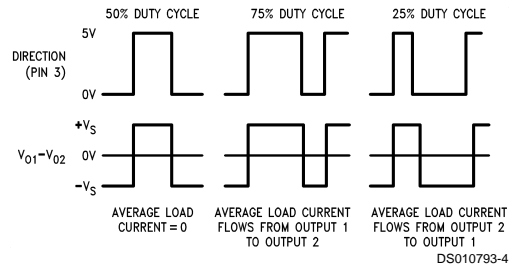

FIGURE 2. Locked Anti-Phase PWM Control
**Simple, locked anti-phase PWM** consists of a single, variable duty-cycle signal in which is encoded both direction and amplitude information (see Figure 2). A 50% duty-cycle PWM signal represents zero drive, since the net value of voltage (integrated over one period) delivered to the load is zero. For the LMD18201, the PWM signal drives the direction input (pin 3) and the PWM input (pin 5) is tied to logic high.